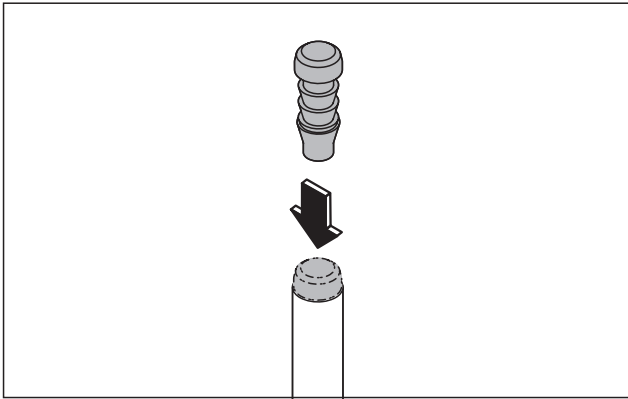

Fig. 44 Insert plastic plug
5. Completely insert the plastic plug into the upper espagnolette bolt (Abb. 44).